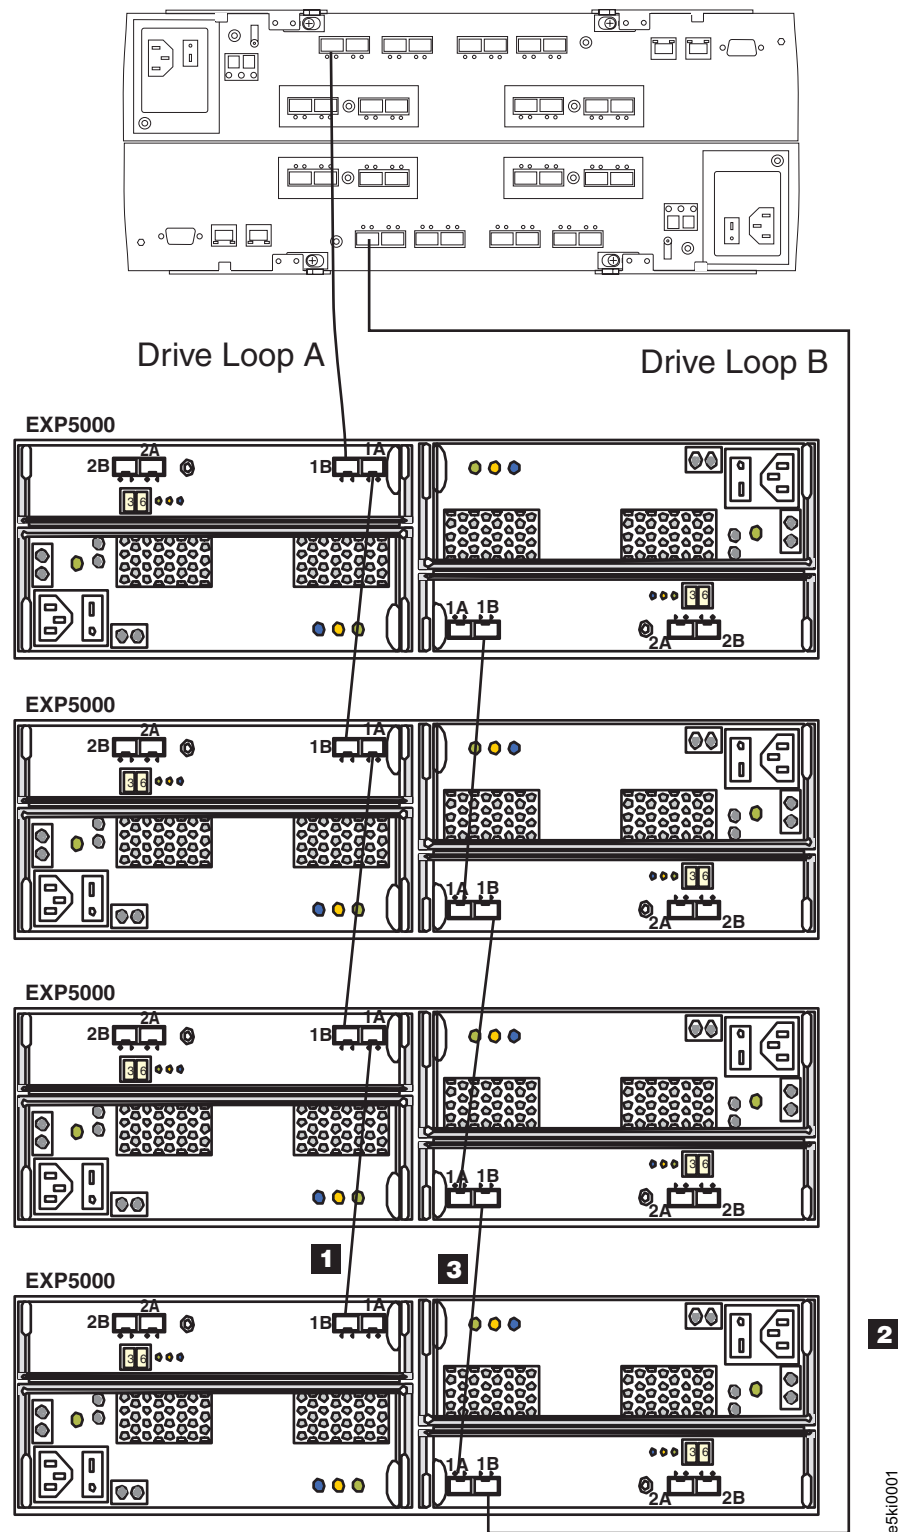

Figure 32. Cabling the EXP5000 to an existing and configured drive loop
Figure 32 on page 69 shows an example of a DS5000 storage subsystem configured with redundant drive loop pairs.
The lines in Figure 32 show how to add a new EXP5000 to an existing DS5000 configuration with EXP5000s. To add the new EXP5000 shown in Figure 32, perform the following steps:
4. Make the fibre-channel connection marked **1** in Figure 32 on page 69 (drive loop A) by connecting port 1A of the existing EXP5000 to port 1B of the new EXP5000. Then verify that it is recognized by the DS Storage Manager software GUI.
5. Move the existing fibre-channel connection marked **2** in Figure 32 on page 69 from the existing EXP5000 enclosure ESM port 1B to the new EXP5000 enclosure ESM port 1B.
6. Make the fibre-channel connection marked **3** in Figure 32 on page 69 (drive loop B) by connecting port 1A of the new EXP5000 to port 1B of the existing EXP5000.